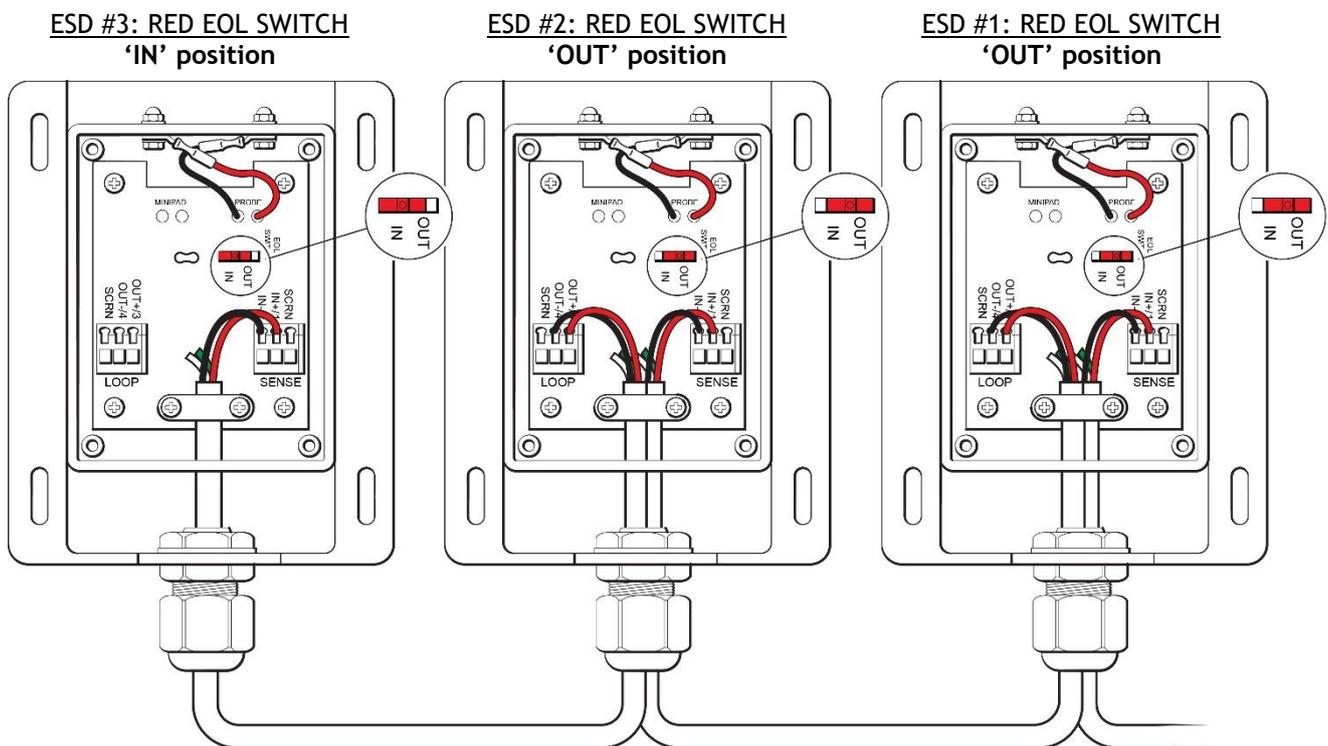

Figure 10: Multiple ESD Sensor Probes to a Single Zone
- b. The last EOL switch should be set to the 'IN' position (e.g. Figure 10).